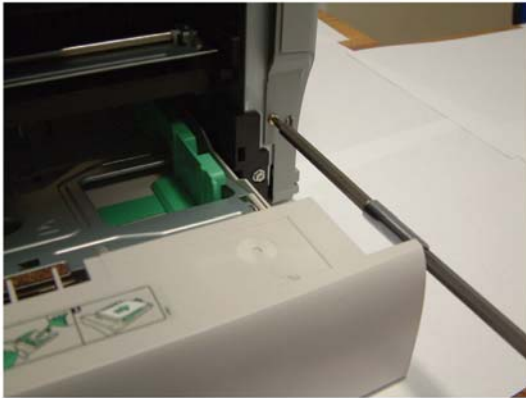

Figure 2
2. Unscrew the two mounting screws on the front and back of the side covers, front mounting screw of the right hand side cover, back mounting screw of the right-hand side cover, Figure 2.